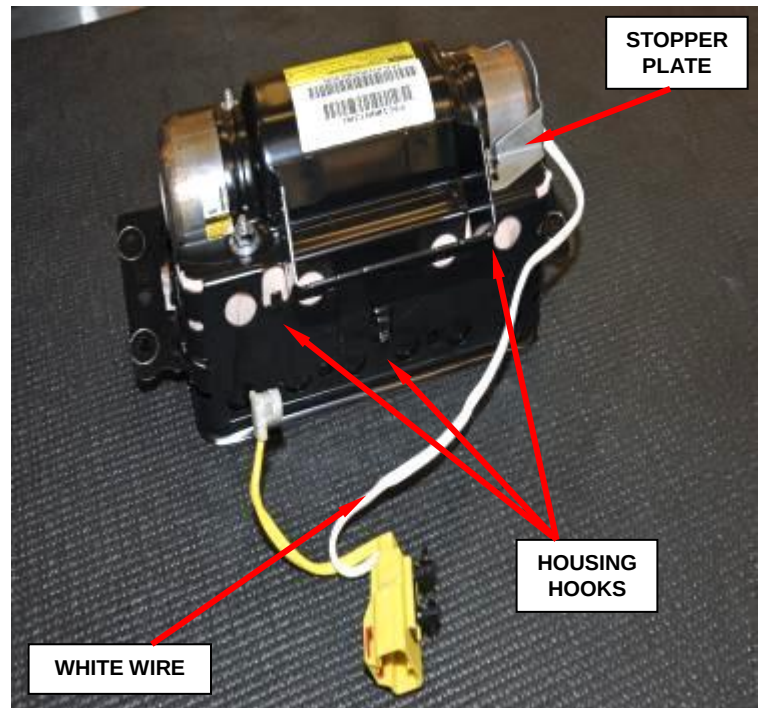

Figure 100 – White Wire Harness
- d. Release the white wire from the three housing hooks (Figure 100).
- f. Remove and save stopper plate from housing (Figures 100 and 101).